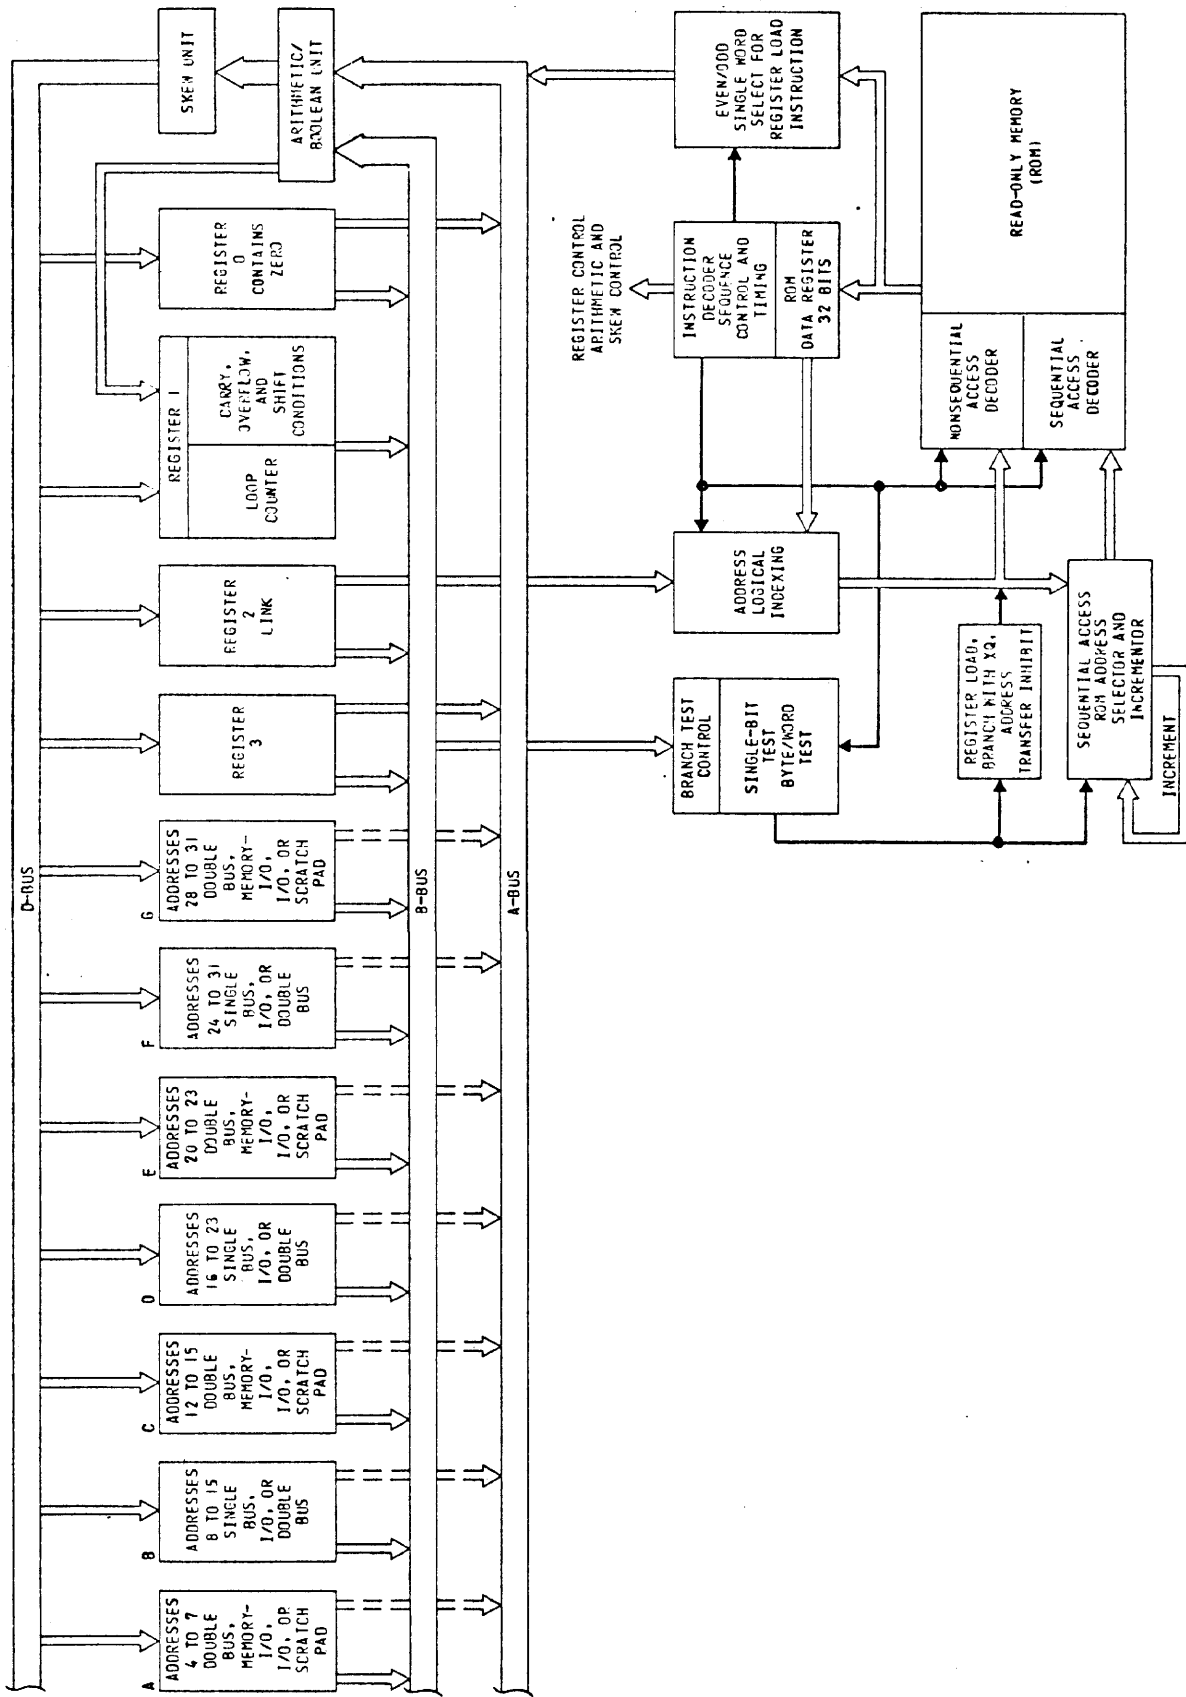

FIGURE 1-1. META 4 COMPUTER SYSTEM, BLOCK DIAGRAM OF CENTRAL PROCESSOR UNIT
- The processing unit (see Figure 1-1, 1-2, and 1-3) consists of data registers, data processing logic, sequence control and the read-only memory (ROM), input/output facilities, core memory, and integrated scratch-pad memory.
In Figure 1-1, registers for addresses 4 through 31 are optional. The requirement for and the choice of a particular type of register depend upon the user's system requirements for accumulator and scratch-pad registers, core memory registers, and input/output registers.
Register addresses 0, 1, 2, and 3 are assigned to the basic machine structure (see Figure 1-1). All other addresses (4 through 31) are available for general use and are assigned in groups of four registers to seven connectors. Addresses 4, 5, 6, and 7 are normally assigned to core memory and general I/O functions. I/O, Memory-I/O, and Single-bus registers can be installed only in the positions indicated.